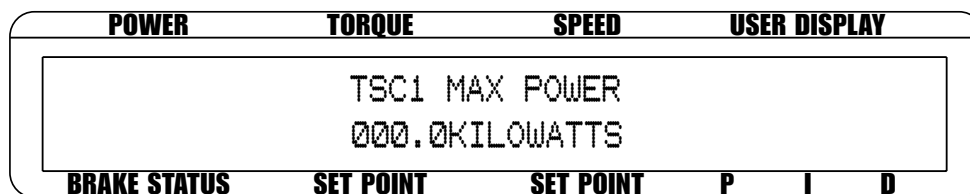

Figure 5–5 Max Power Menu
- A. When the power exceeds that of the maximum power setting, the message -OL- will appear and blink in the power section of the display (as indicated in Figure 5–6).